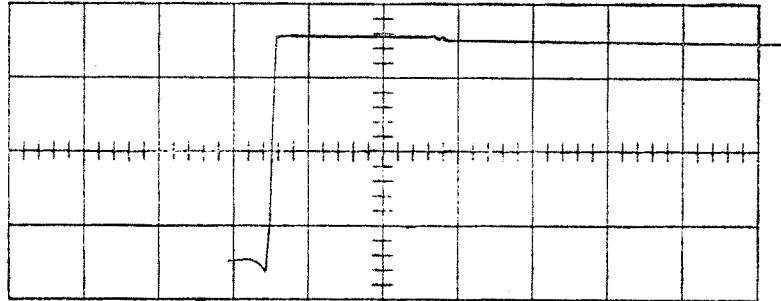
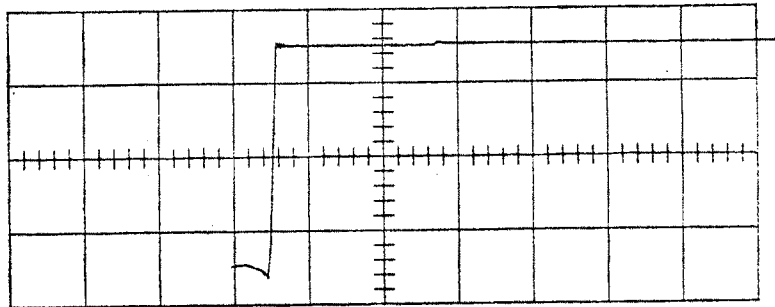

Fig. 5. Illustrating a "rising" general "level" of early part of waveform. A "falling" level is also possible. These conditions require detailed readjustment.
Fig. 6. Here a section of the display is noticeably lower than the rest of the display. This condition requires detailed readjustment.
- Does the general "level" of the early part of the top of the waveform (say the first 2 or 2½ centimeters) rise or fall noticeably (Fig. 5)? Now turn the MULTIPLIER control to 5. Is a section of the display noticeably lower than the rest of the display (Fig. 6)? If either of these faults exists, proceed directly to the part of this publication headed "Detailed adjustment of the vertical amplifier and delay line."